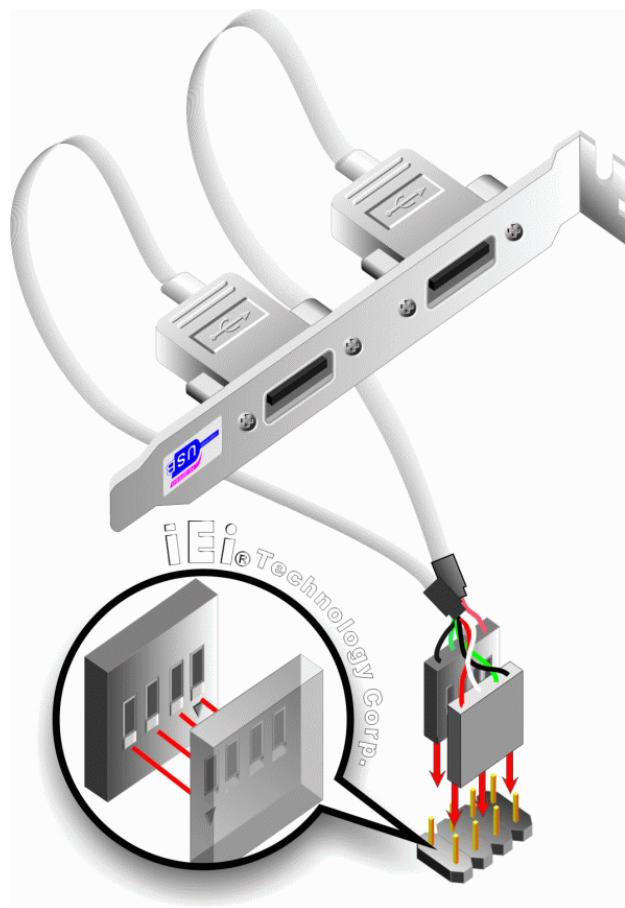

Figure 4-14: Dual USB Cable Connection
**Step 3: Insert the cable connectors** Once the cable connectors are properly aligned with the USB connectors on the PICOe-PV-D4251/N4551/D5251, connect the cable connectors to the on-board connectors. See **Figure 4-14**.